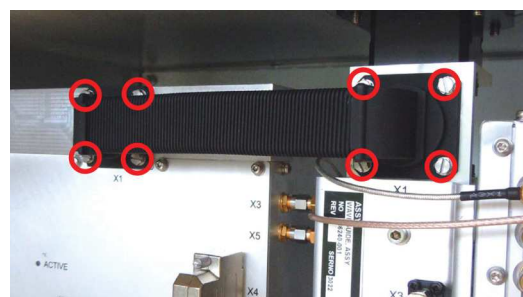

Fig. 7.40 WG SSPA, screws
- 3 Remove eight screws holding the waveguide assembly and remove it. Use tool 10. See Fig. 7.40 \(p. 141\)